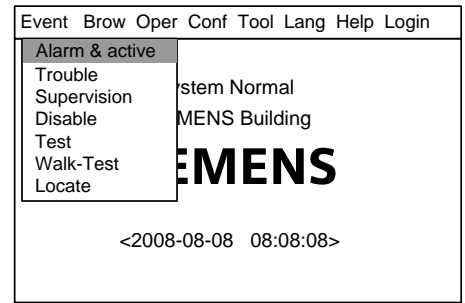

Fig.25-1
1. Press "Menu" to browse the main menu (Fig. 25-1)